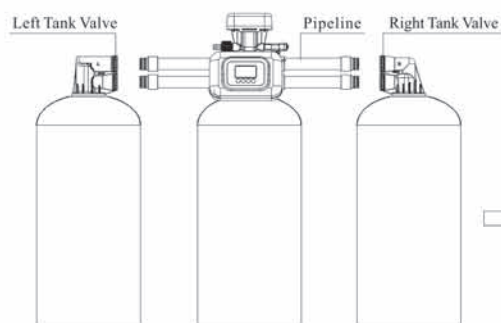
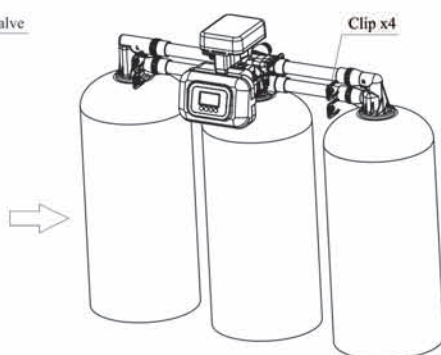

Figure 4
Figure 5
e. As the Figure 4 and Figure 5 show, move the left and right tanks to the middle tank, insert the pipelines to the corresponding connectors on left and right tank valve then lock with clips.